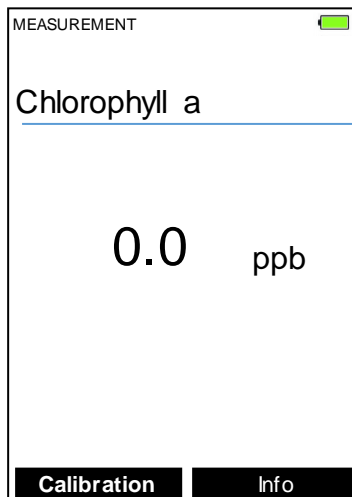

Figure 4
3. A Screen similar to Figure 4 appears. The value will be very low if DI water is used; chlorophyll a should be near zero. A low non-zero value (e.g. 0.1 or 0.2, etc.) is not problematic.
11. Press the Exit labeled key (OK) to return to the basic read screen. The screen will be similar to Figure 4. Slight variance in the chlorophyll a value is not problematic. If Exit is done before the second checkmark appears, the calibration will not be completed and must be re-done. After a successful calibration, the unit does not automatically return to the read (Measurement) mode. If Exit is held down too long the unit will power down rather than returning to the read mode.